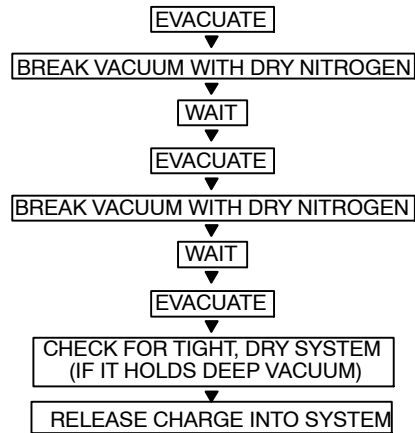

Fig. 11 – Triple Evacuation Method
The triple evacuation method should be used. Refer to Fig. 11 and proceed as follows:
- 5 Repeat this procedure as indicated in Fig. 11. System will then be free of any contaminants and water vapor.